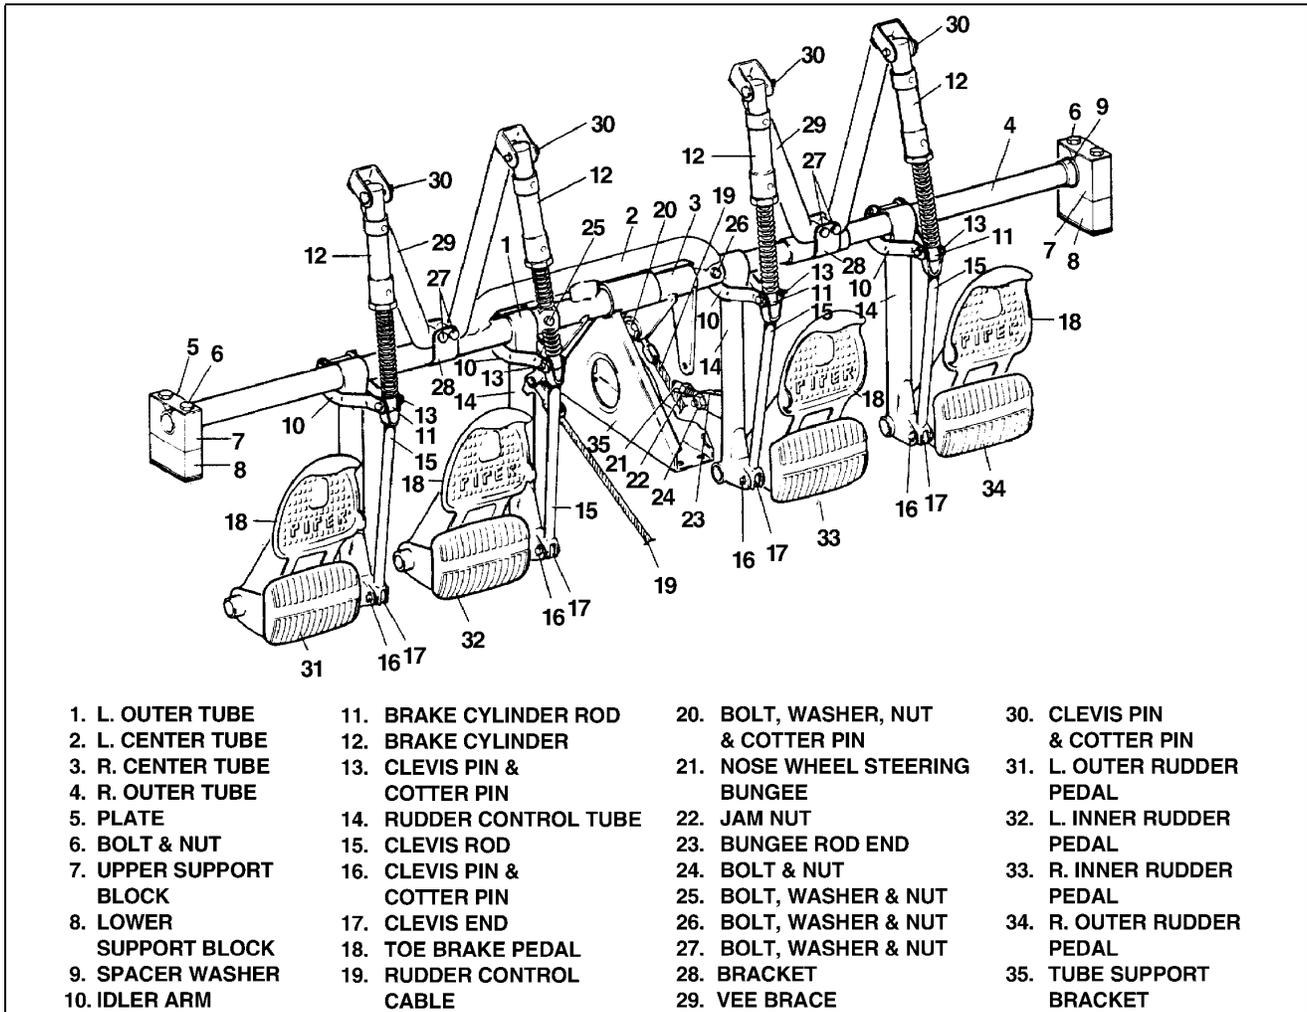

Figure 27-18. Rudder and Steering Pedal Assembly
1. To Remove Rudder and Steering Pedal Assembly (Refer to Figure 27-18.)
2. To Install Rudder and Steering Pedal Assembly (Refer to Figure 27-18.)
- a. Assemble torque tube assembly as shown in Figure 27-18. Do not install the two bolts through the center of the tube assembly at this time.
- (1) A bushing is required in bolt holes of upper support block.
- (2) A plate is required on top of upper block, between upper and lower blocks and under block mounting bracket.